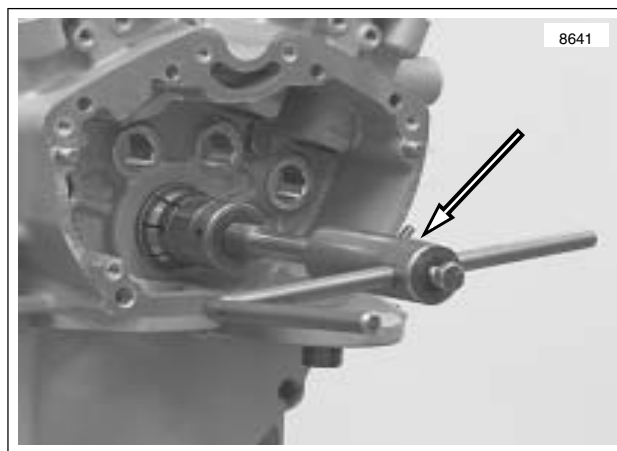

Figure 3-146. Lapping Pinion Shaft Bearing Outer Race with Crankcase Main Bearing Lapping Tool (Part No. HD-96710-40B)
2. See Figure 3-146. Obtain CRANKCASE MAIN BEARING LAPPING TOOL (Part No. HD-96710-40B). Assemble CRANKCASE MAIN BEARING LAP (Part No. HD-96718-87) to lapping handle. Assemble guide sleeve to sprocket shaft bearing bushing. Sleeves, for use with tapered bearing, are assembled to case with bearings and small spacer collar. Finger-tighten the sleeve parts.